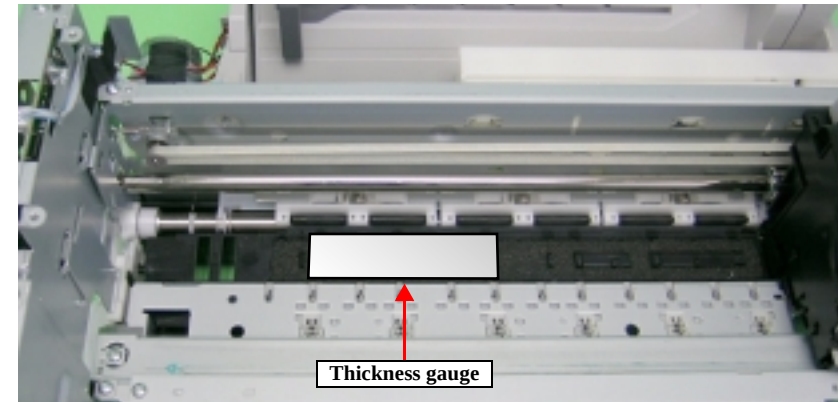

Figure 5-9. Placement position for thickness gauge
16. Set the thickness gauge at position shown by Figure 5-9 again.